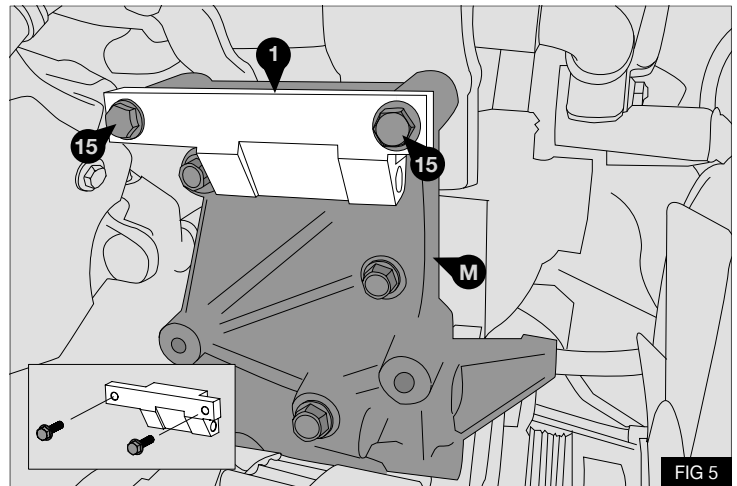

FIG 5
9. Secure the top support bracket (1) to the original bracket (M) using 2x M8x30 bolts (15). Torque bolts (15) to 29 Nm / 21 lb-ft - Fig 5